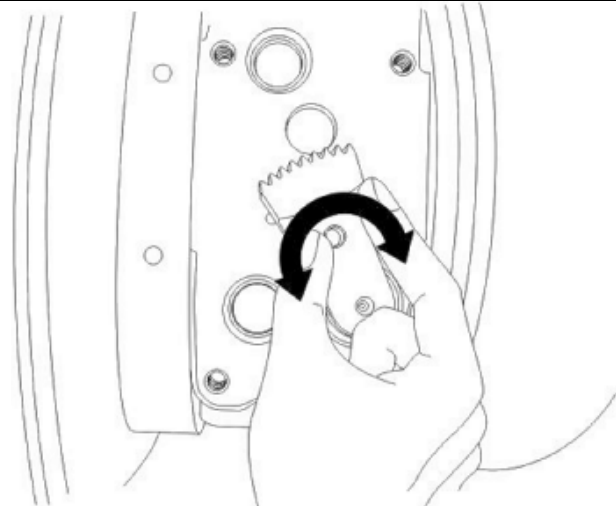

FIGURE 8
12. Using gloves, manually rotate the turbocharger sector gear back and forth (counterclockwise and clockwise) (FIGURE 8). It should be noted that when the sector gear is at the end of travel, or at an end stop, it can require significant force to overcome friction then, start its motion in the opposite direction. This is normal and not cause for concern. Apply more force to move the sector gear. Once in motion, the sector gear movement should be smooth, without binding or sticking until it reaches its end of travel (end stop).